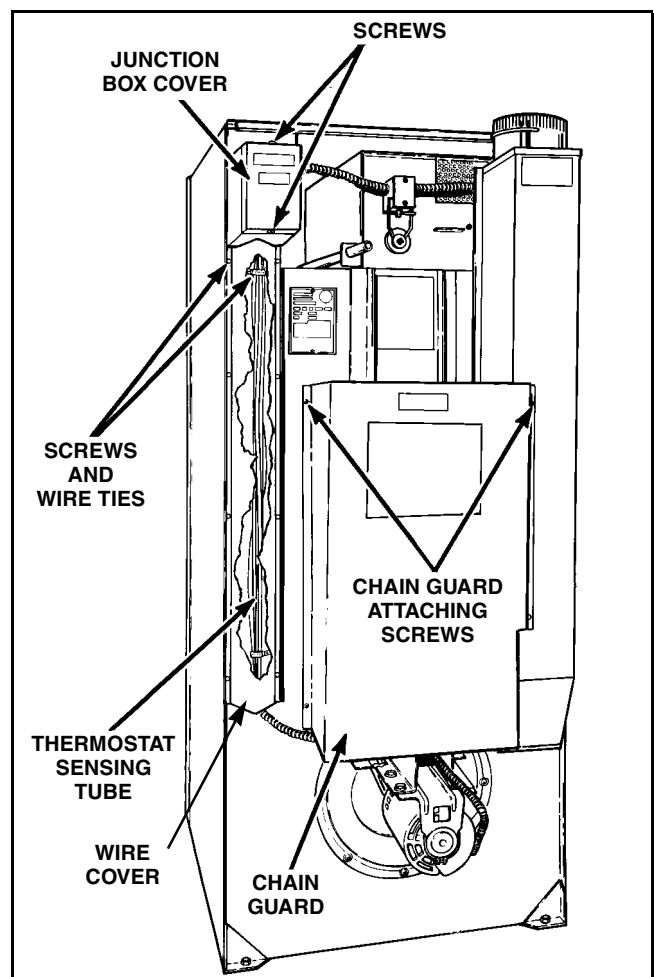

Figure 17
- Remove screws holding wire cover to rear of tumbler. Refer to *Figure 17*.
- Support chain guard and remove screws holding guard to rear of tumbler. Remove guard. Refer to *Figure 17*.